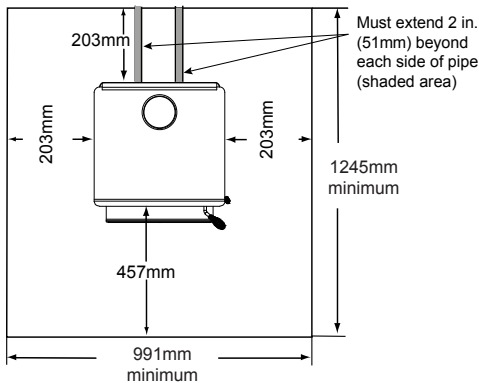

Figure 8.2
In Canada, similar floor protection must be provided 18 inches (457mm) in front and 8 inches (203mm) from the sides and rear of the appliance. **Figure 8.2 *See exception.**
***EXCEPTION:** Non-combustible floor protections must extend beneath the flue pipe when installed with horizontal venting and extend 2 inches (51mm) beyond each side. **See Figure 8.2**